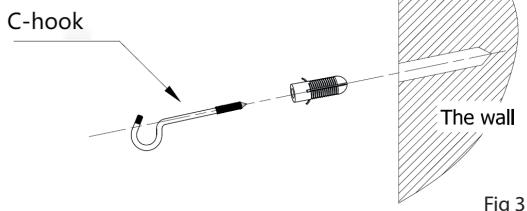

Fig 3
2. Put 2 expand tubes into the holes, and then fix the 2 "outer fixture" on the wall with the C-hook. screws. Please see the Fig 3.